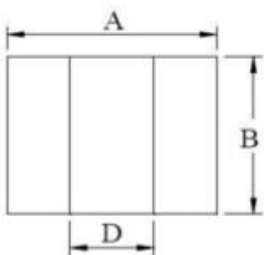
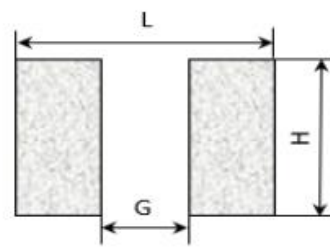

Fig 4-1
Fig 4-2
1) Dimensions See Fig.4-1 and recommended PCB pattern See Fig.4-2 and Table 4-1.